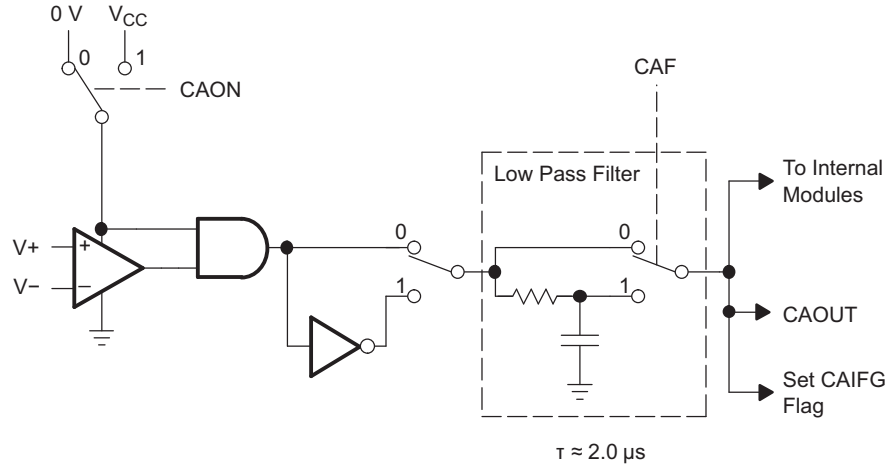

Figure 32. Comparator\_A+ Block Diagram
| t (response)            | Response time (low-to-high and high-to-low)T A = 25°C, Overdrive 10 mV,Without filter: CAF = 0 (3)(see <a href="#">Figure 32</a> and <a href="#">Figure 33</a> ) | 2.2 V           | 80   | 165  | 300                 | ns   |